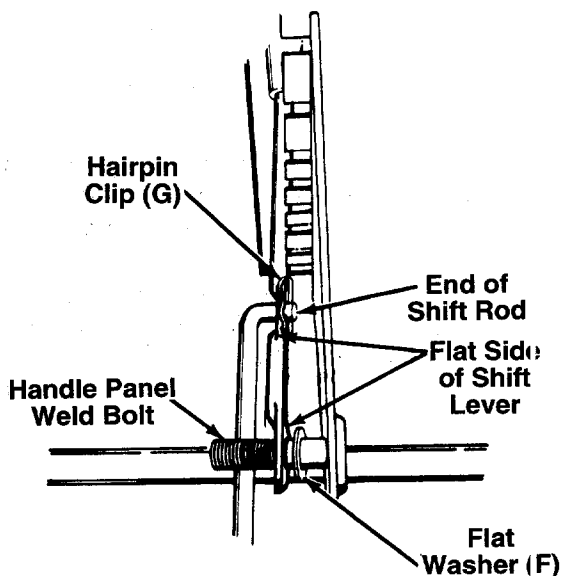

FIGURE 11.
15. Thread shift knob (Z) onto the shift lever (R).
16. Place one flat washer (F) over the weld bolt on the handle panel. Place shift lever (R) through slot in handle panel, with the flat side of shift lever against bracket on handle panel. Place the hole in the end of the shift lever over the handle panel weld bolt. See figure 11.
17. Place the shift lever in the fastest forward position (5th speed). Push the shift rod all the way forward (assembled to the ferrule in step 3). Thread the shift rod in or out of the ferrule as necessary until the end of the rod lines up with the hole in the shift lever. Insert end of rod into hole in shift lever and secure with hairpin clip (G). See figure 11.
To adjust the shift lever, place the shift lever in the fastest forward position (5th speed). Remove the hairpin clip which secures the shift rod to the shift lever (refer to figure 11), and remove the rod from the lever. Push the shift rod all the way forward. Thread the shift rod in or out of the ferrule one or two turns as necessary, until the end of the rod lines up with the hole in the shift lever. Insert end of rod into hole in shift lever and secure with hairpin clip. Recheck the adjustment.